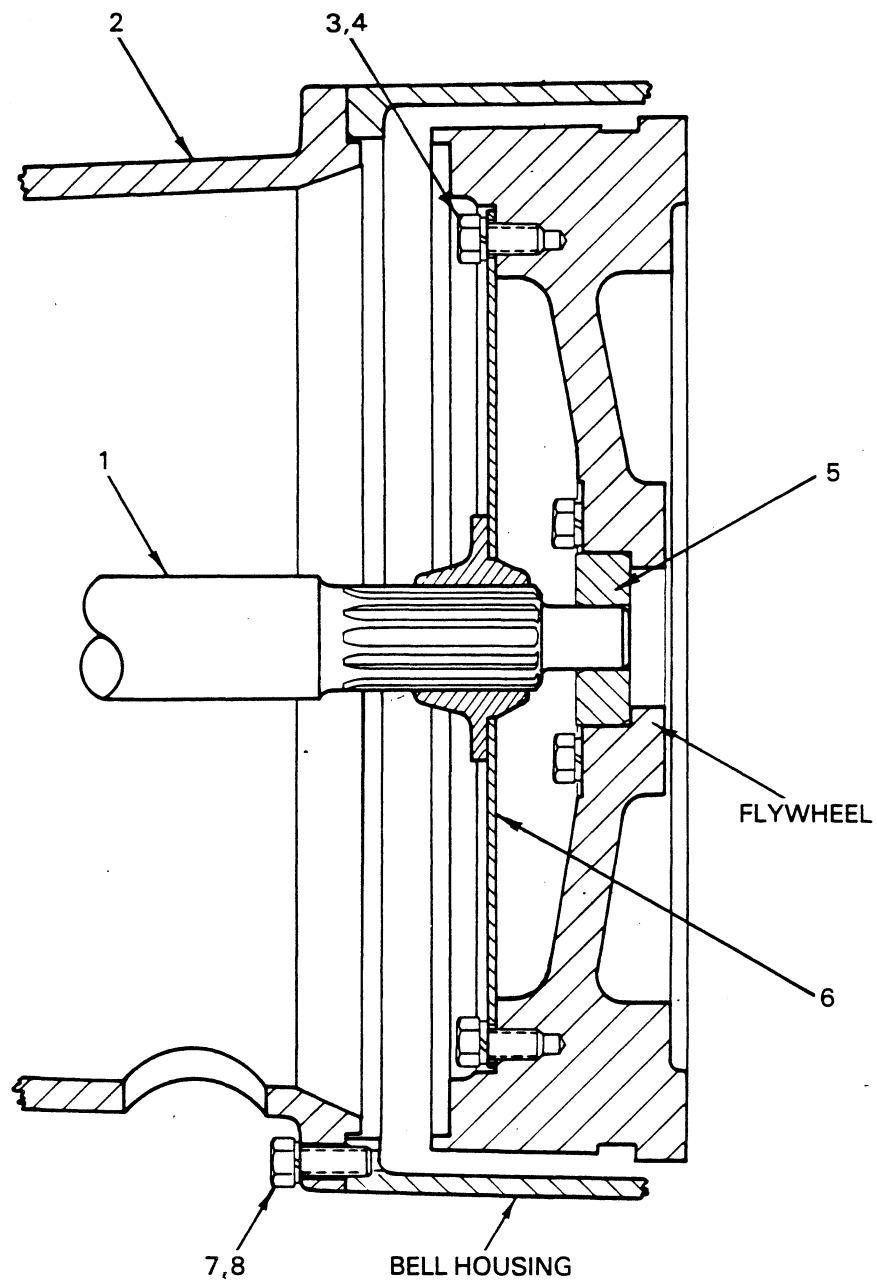

Figure 3. Pump Model 64B52-F3L Drive Assembly
**Separating Pump From Engine****(Figure 3)**